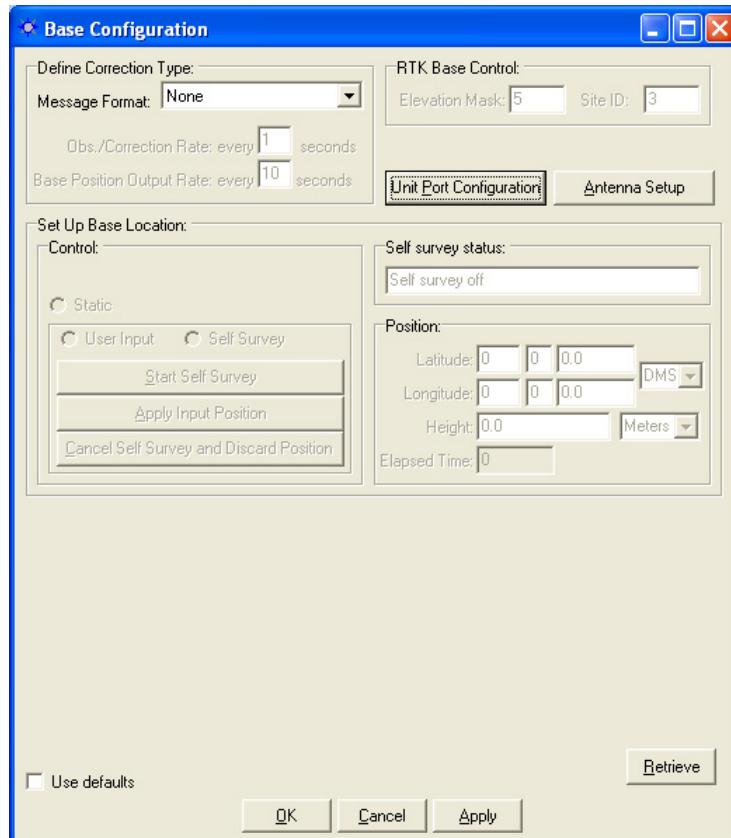

Figure 9: Base Configuration Window
- ✓ Click the icon on the toolbar to configure the base station. The *Base Configuration* window opens (see Figure 9).